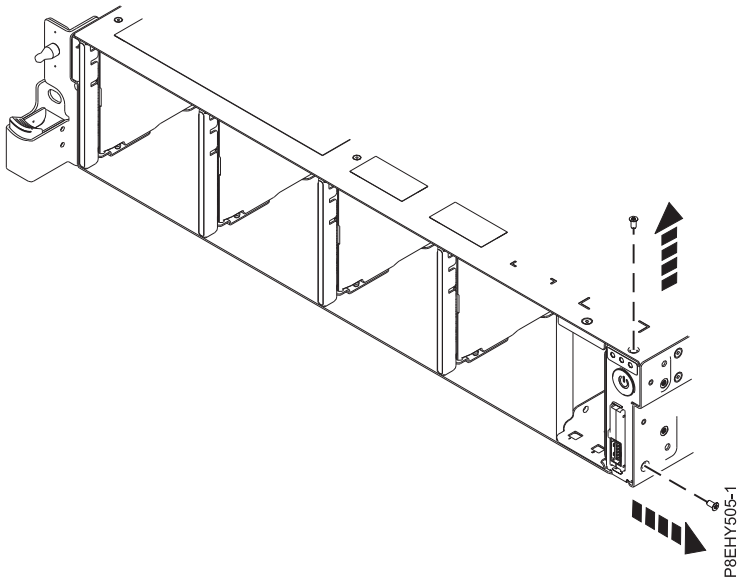

Figure 58. Remove the top and side screws
8. Remove the top and side screws from the power switch. See Figure 58 on page 58.